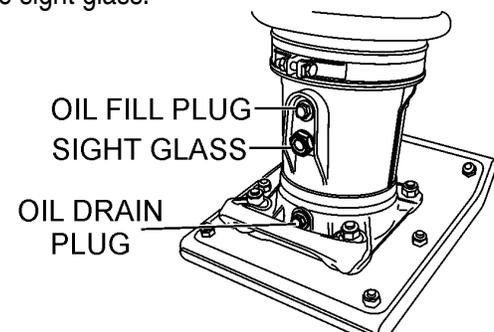

Figure 13. Draining Oil Bath Lubricant
2. Remove the oil drain plug on foot housing (Figure 13) and drain the oil. Refill with approximately 0.85 qt. (0.80 liters) of 10W-30 SE, SF or higher grade motor oil. Oil should be midway in sight glass. **Break in oil** should be changed after first **50 hours** of operation.